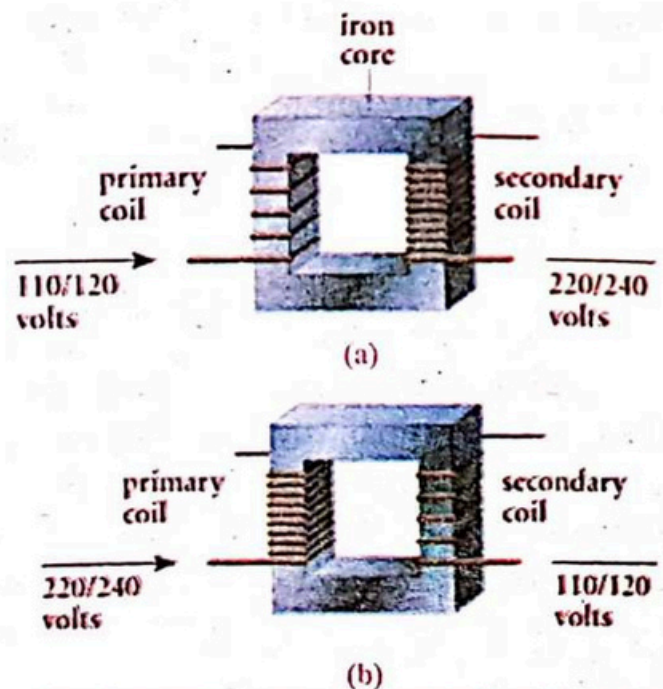

Fig.14.19(a) Step up transformer, where $N_s > N_p$ and $V_s > V_p$ (b) step down transformer, where $N_p > N_s$ and $V_p > V_s$.
1. **Step Up Transformer:** If the number of turns of secondary coil ' N_s ' is greater than the number of turns of primary coil ' N_p ' and output voltage ' V_s ' is more than input voltage ' V_p ' then the transformer is said to step up transformer as shown in Fig.14.19(a).
2. **Step Down Transformer:** If the number of turns of secondary coil ' N_s ' is less than the number of turns of the primary coil ' N_p ' and the output voltage ' V_s ' is smaller than input voltage ' V_p ' then the transformer is said to be step down transformer as shown in Fig.14.19(b).